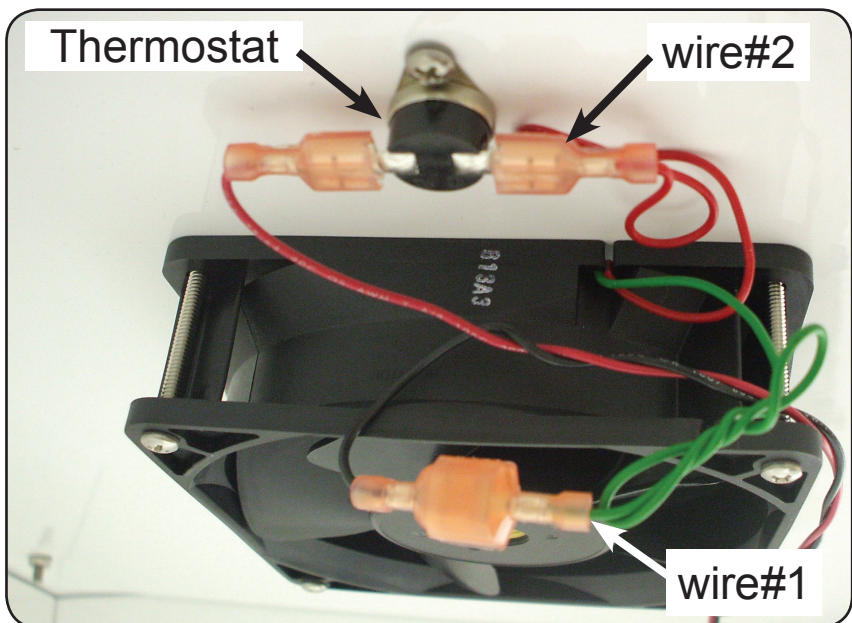

Figure 7.1 - DC Fan Replacement
2. Disconnect fan wire #1. (See Figure 7.1)